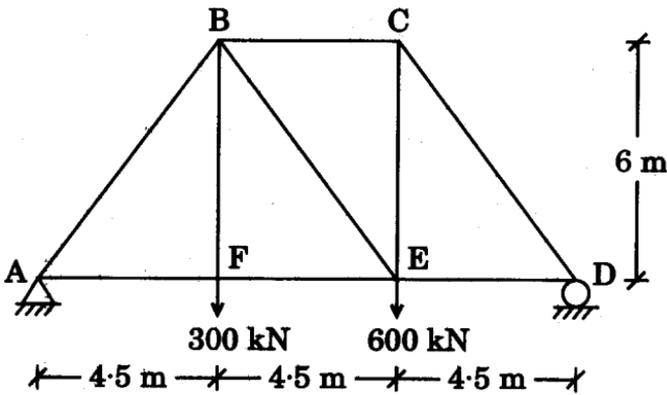

Figure 6
7. Determine the horizontal displacement of roller support of the truss as shown in Figure 6. Cross-section of all top chord members are 6000 mm^2 and other members have 3000 mm^2 X-section. Take $E = 200 \text{ kN/mm}^2$.